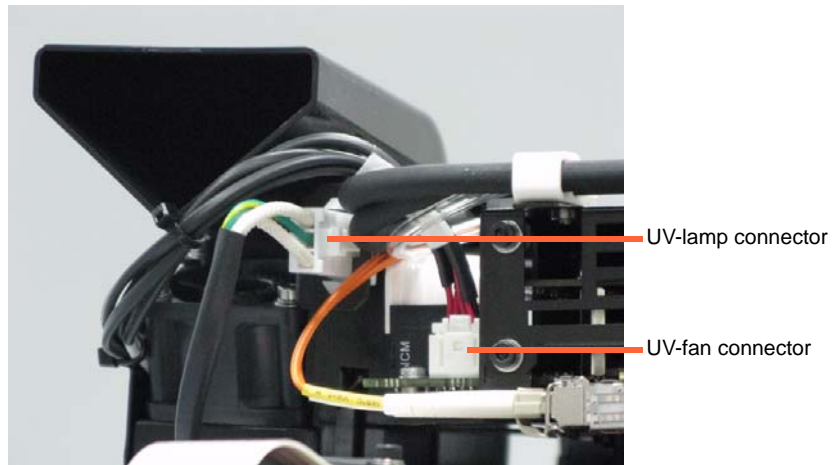

Figure 7-68: Disconnecting the UV lamp assembly
17. Reconnect the power connections (see figure 7-68).